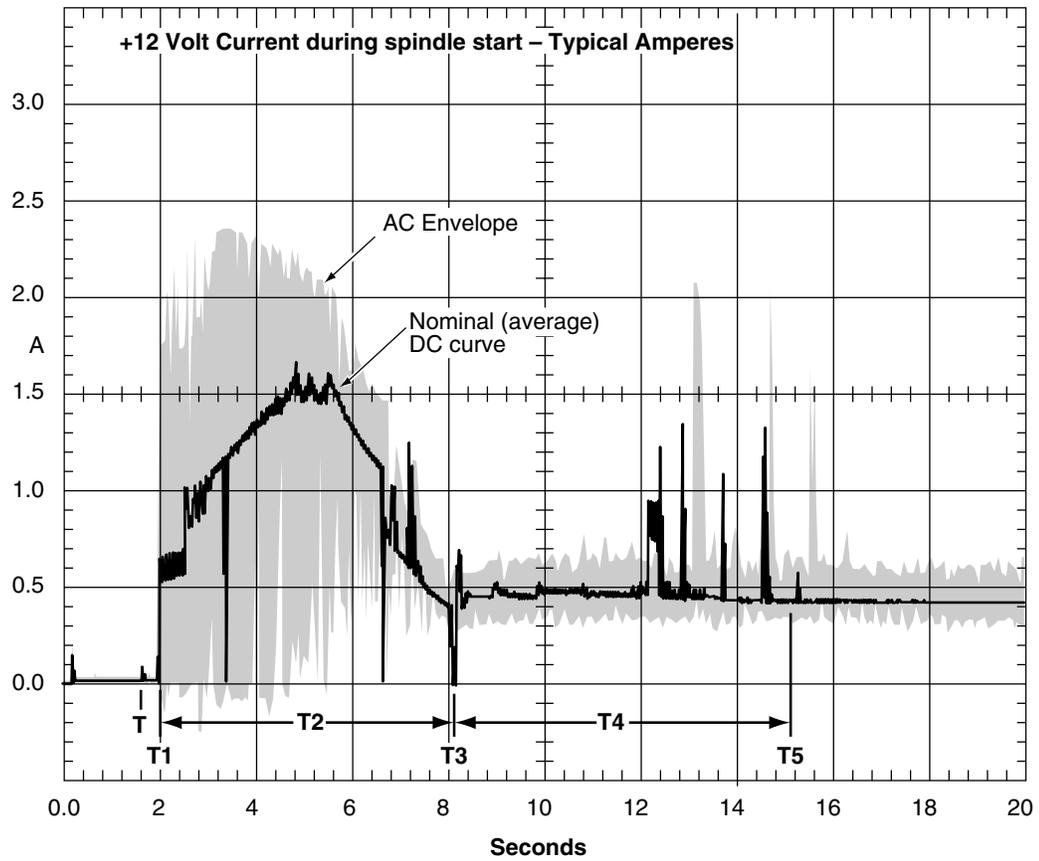

Figure 3. Typical ST318404 drive +12 V current profile
- [3] See +12 V current profile in Figure 3.
Figure 3 identifies the drive +12 V current profile. The current during the various times is as shown: